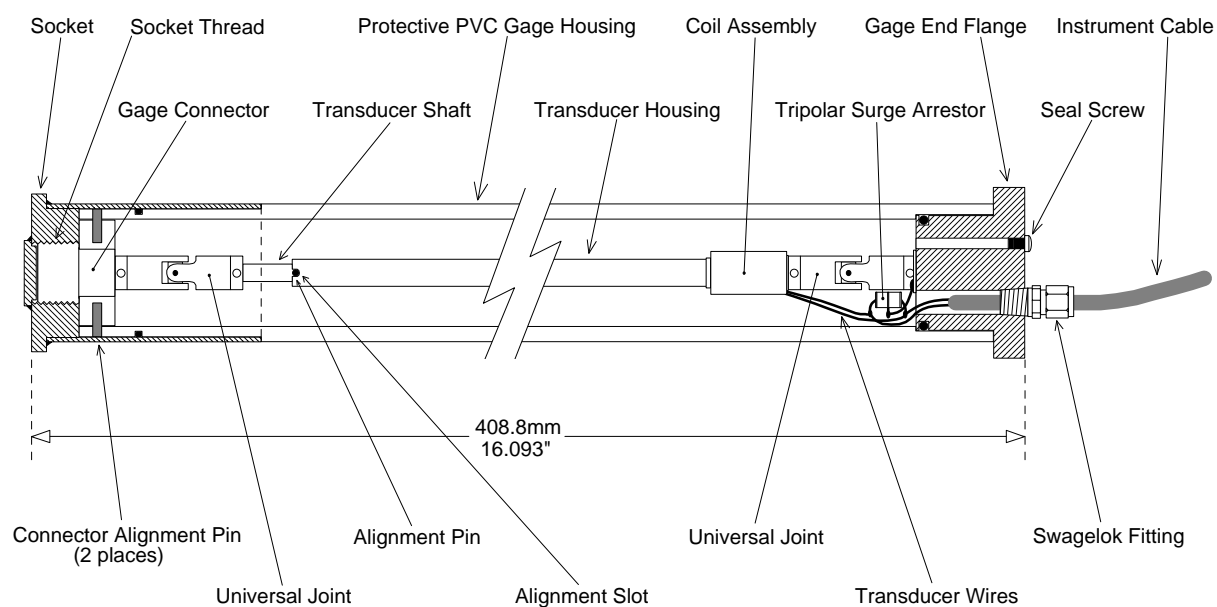

Figure 1 - Model 4400 Vibrating Wire Embedment Jointmeter
3. Remove the seal screw from the cable end flange. See Figure 1. This allows air to enter the inside of the jointmeter while it is being adjusted.
L_C is the correction for the expansion/contraction of the universal joints and flanges, (see figure1).